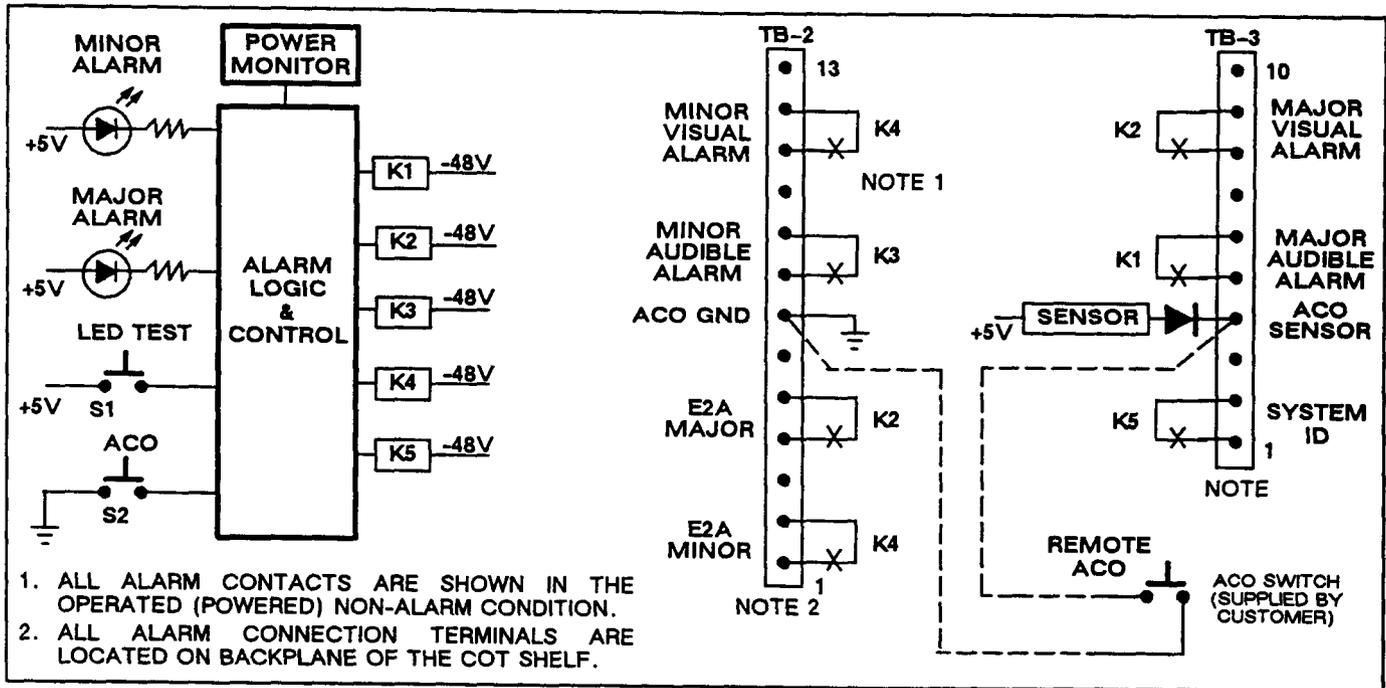

Figure 2. DDL221 COT Common Unit Block Diagram
2.01 The Wescom DDL221 COT Common Unit provides front panel LED and switches for the following functions (refer to Figure 2):
(d) A front-panel ACO switch is provided to cancel all alarms except System ID (see NOTE). A remote ACO switch can also be connected via terminals on the backplane of the COT shelf. See Figure 2.
(e) The COT Common Unit also provides alarm contacts for external alarm indicators. See Figure 2.